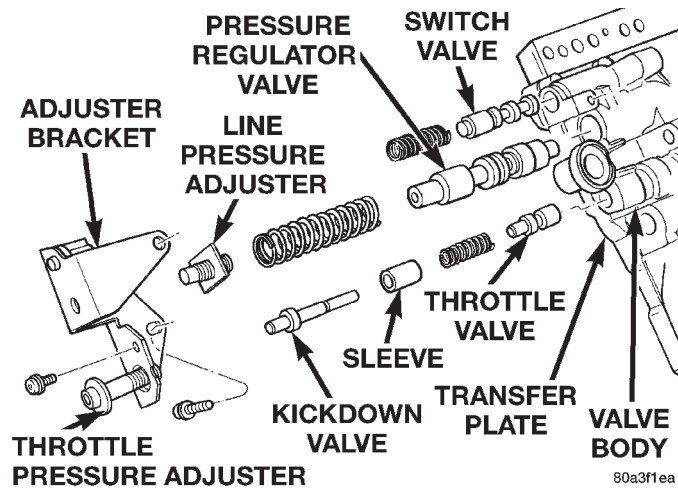

Fig. 68 Adjusting Screw Bracket, Springs, and Valves
(45) Install switch valve and spring, pressure regulator valve and spring, kickdown valve and spring, and throttle valve into valve body (Fig. 68).